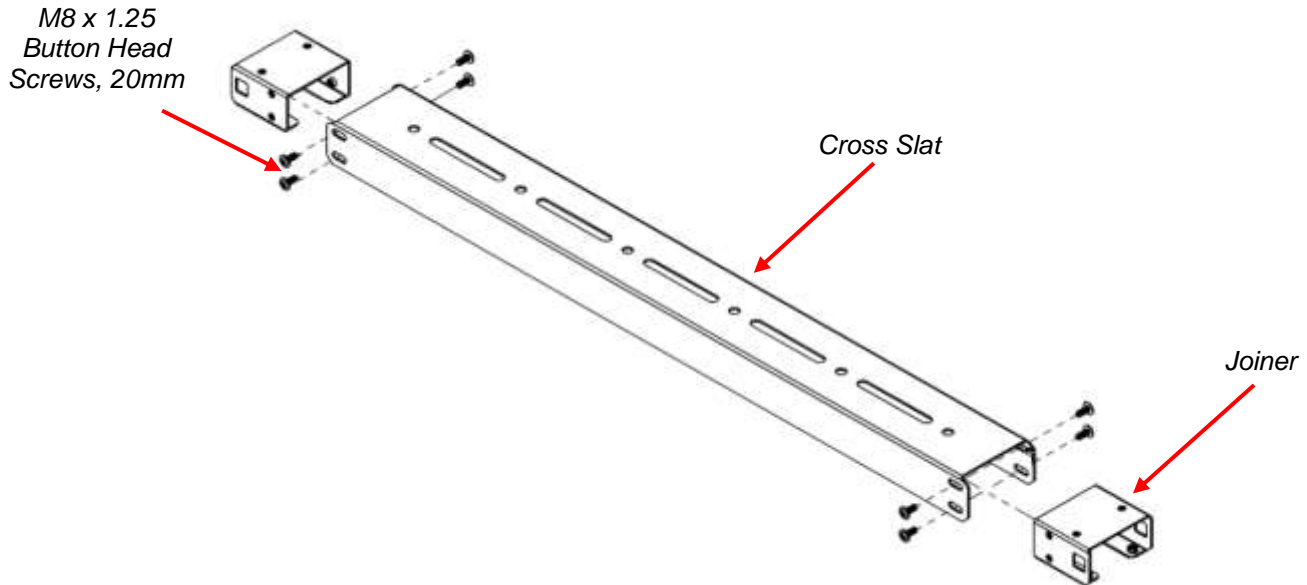

Figure 1
2. Locate the Cross Slat, (2) two Joiners, and (8) eight M8 x 1.25 Button Head Screws, 20mm. Position the Joiners into the Cross Slat as seen in *Figure 1* below. Using (4) four M8 x 1.25 Button Head Screws per side, attach the Joiners to the Cross Slat Frame and loosely thread in the M8 x 1.25 Screws.